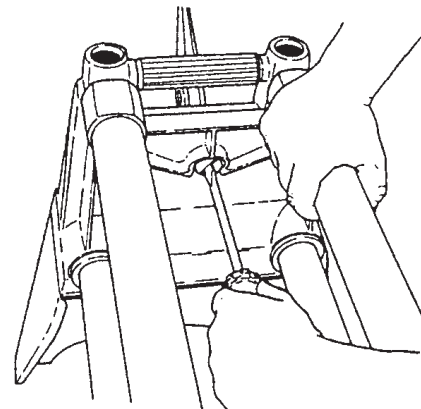

Figure B-44
1. To check the headrest lock (15), grasp the way tubes near the tie bar (25) and pull up, as demonstrated by the right hand in Figure B-44.
2. If there is "give" in the lock, unlock the handle and use a medium Phillips screwdriver to turn the lock shaft (6) **clockwise**, as done by the left hand in Figure B-44. If the lock is difficult to operate, the shaft is too tight. To loosen, unlock the handle and turn the shaft **counterclockwise**.